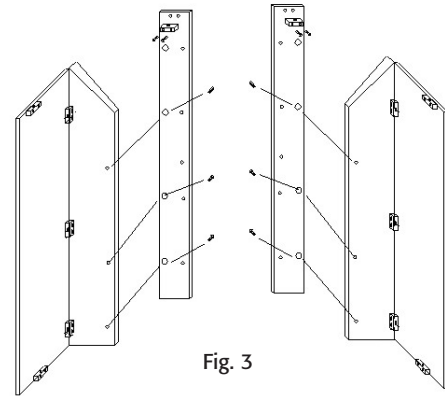

Fig. 3
Step 3: Attach 2 Plastic Connectors [R] to Front Panels [G] with 4 KD screws (2 screws for each connector). Attach Front Panels [G] to Left and Right Decorative Panels [E and F] with 6 KD screws [Q]. See Fig. 3